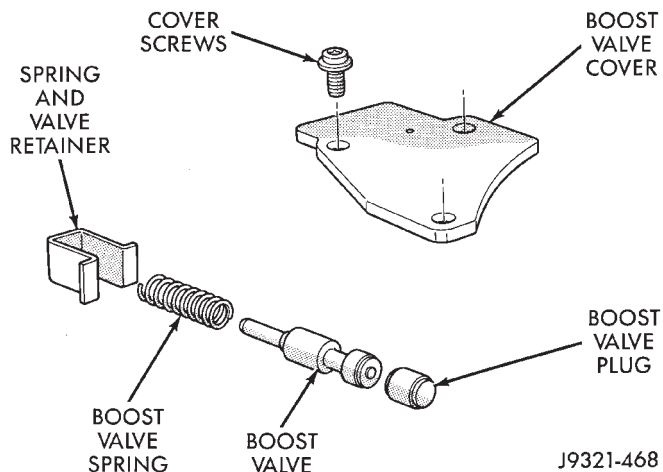

Fig. 100 Boost Valve Components
(12) Remove boost valve retainer, valve spring and boost valve (Fig. 100).